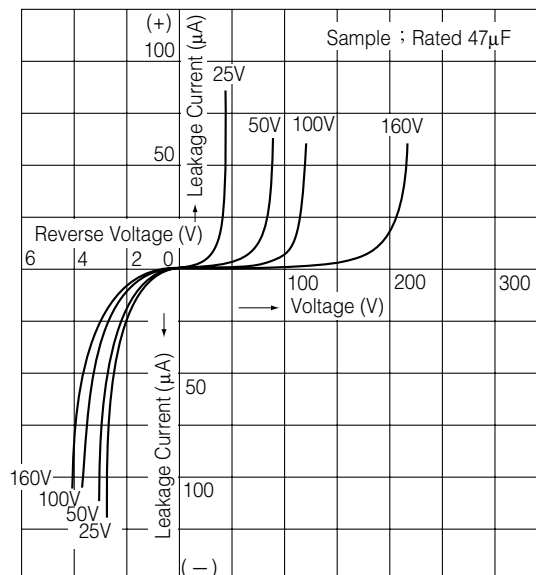

Fig. 2-2 V - I Characteristics
The relationship between the voltage and leakage current when voltage is applied to the aluminum electrolytic capacitor is shown in Fig. 2-2. From Fig. 2-2, the following can be said:
As (Fig. 2-2 V-I Characteristics) shows, the aluminum electrolytic capacitor does not have withstand voltage in the reverse direction. Therefore if the capacitor is used in an AC circuit, an electric current flow which is larger than that calculated from $I = \omega CE$. If the internal resistance of the aluminum electrolytic capacitor is labeled R (Ω), heat will generate due to the wattage loss $W = I^2 R$ (W) according to the current. The degree of heat is large because the internal resistance of a capacitor is large; thus the pressure relief vent is activated when heat generates and causes the electrolyte to evaporate, causing the internal pressure to rise. Even bipolar capacitors (non-polar), cannot use it for continuous AC application in addition to above.